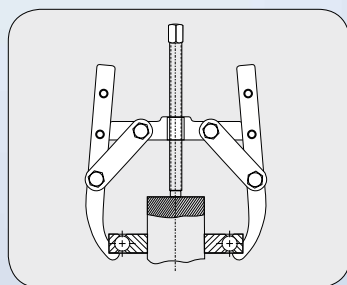

Figure 2
4. Position the puller as shown in Fig 2.